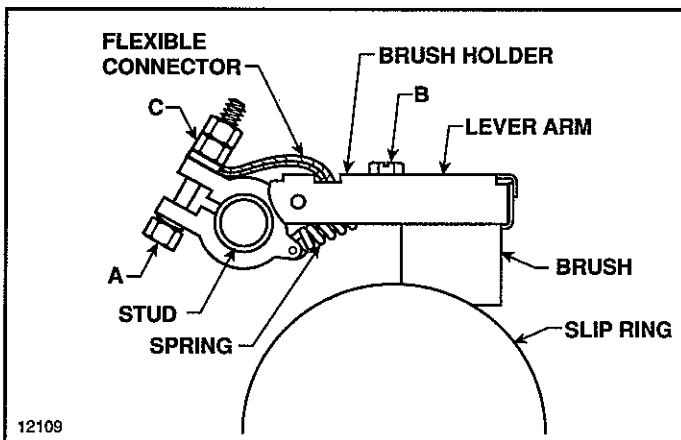

Figure 9.1 Brush Holder with Brushes.
(2) Brushes (Wound Rotor motors only). Figure 9-1 shows a typical brush holder with brush. (Details may be different for motors by other manufacturers.)
To adjust brush pressure on slip ring, loosen or tighten nut A (see Figure 9-1) until concave surface of brush makes good contact with slip ring.
To replace brushes, use following steps (see Figure 9-1):
(3) Slip Rings. Slip rings of a wound rotor motor (see Figure 9-1) must be kept clean, smooth and concentric. They can be cleaned by a fine sandpaper or any commercial electrical cleaning solvent.
(4) If motor requires any parts other than brushes, replace motor.